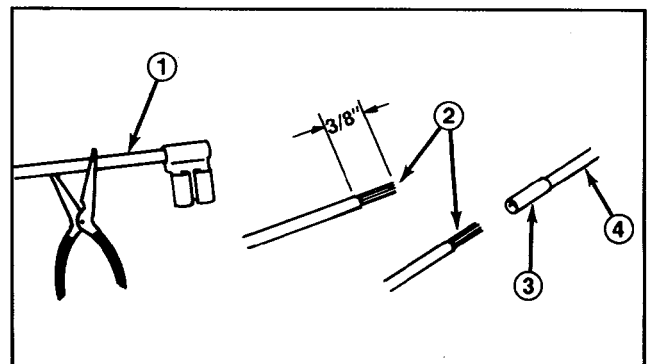

Figure 3
5. Cut the spade connector off the original blue wire and trim approximately 3/8" insulation off the wire end. Insert end into butt splice connector on the blue starter relay wire and crimp connector to secure wire in connector (Fig. 3).
6. Cut the spade connector off the original blue wire and trim approximately 3/8" insulation off the wire end. Insert end into butt splice connector on the blue starter relay wire and crimp connector to secure wire in connector (Fig. 3).